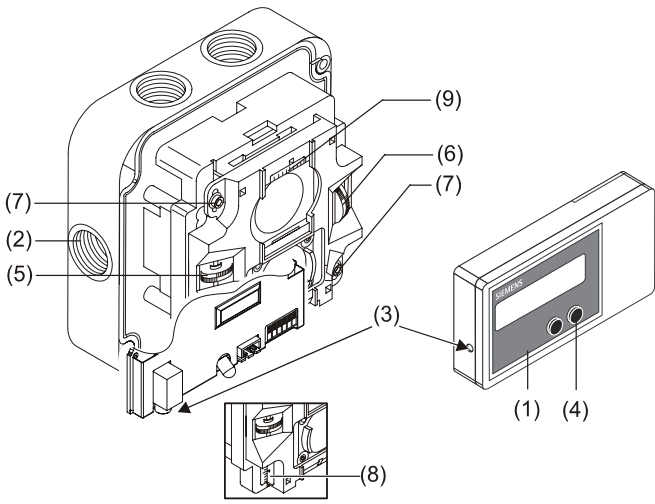

Fig. 5
1. Fix the adjustment device (Fig. 5, [1]) at the base. To do this, turn the cable gland of the suspension into a free cable grommet (Fig. 5, [2]) of the base and link it to the adjustment device suspension chain.
2. Connect the connection sockets (Fig. 5, [3]) if the adjustment device and of the detector, using the MC-Link cable enclosed in the delivery.
3. Switch the adjustment device on using the right button (Fig. 5, [4]). It is possible to switch between "Adjust" and "Initialization" with the same button. The display indication after initialization differs from that before. Setup of display see table below.